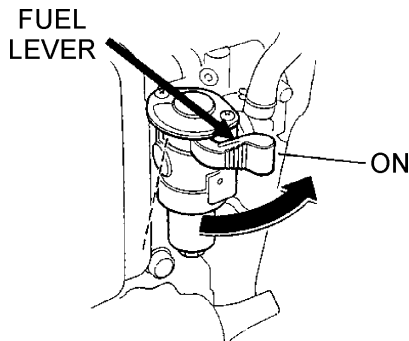

Figure 20. Engine Fuel Valve Lever (ON Position)
1. Place the engine **fuel valve lever** (Figure 20) to the "ON" position.